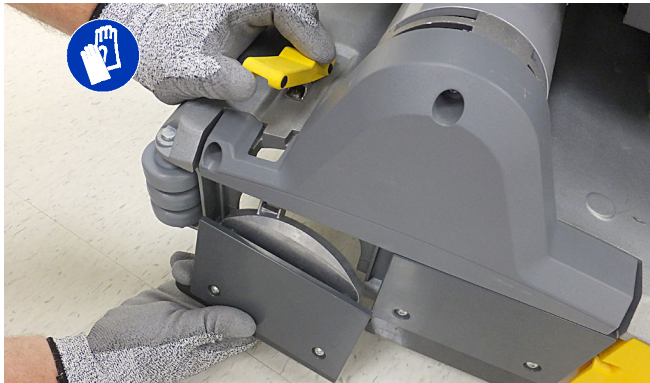

FIG. 18
2. Unfasten yellow latch and remove the idler plate from the scrub head (Figure 18).